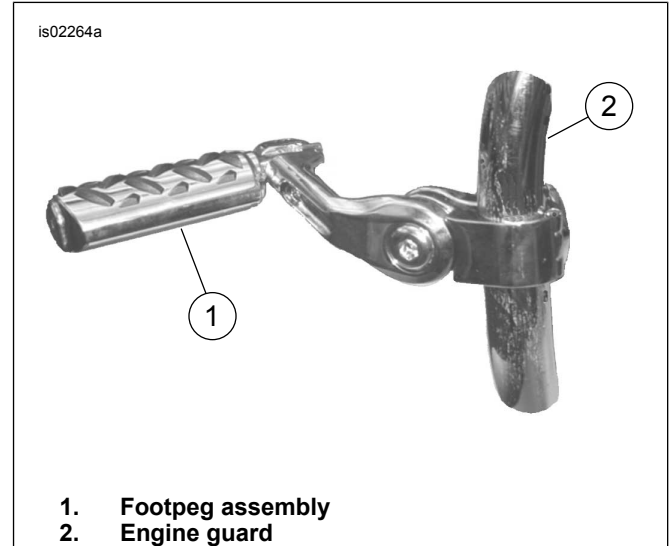
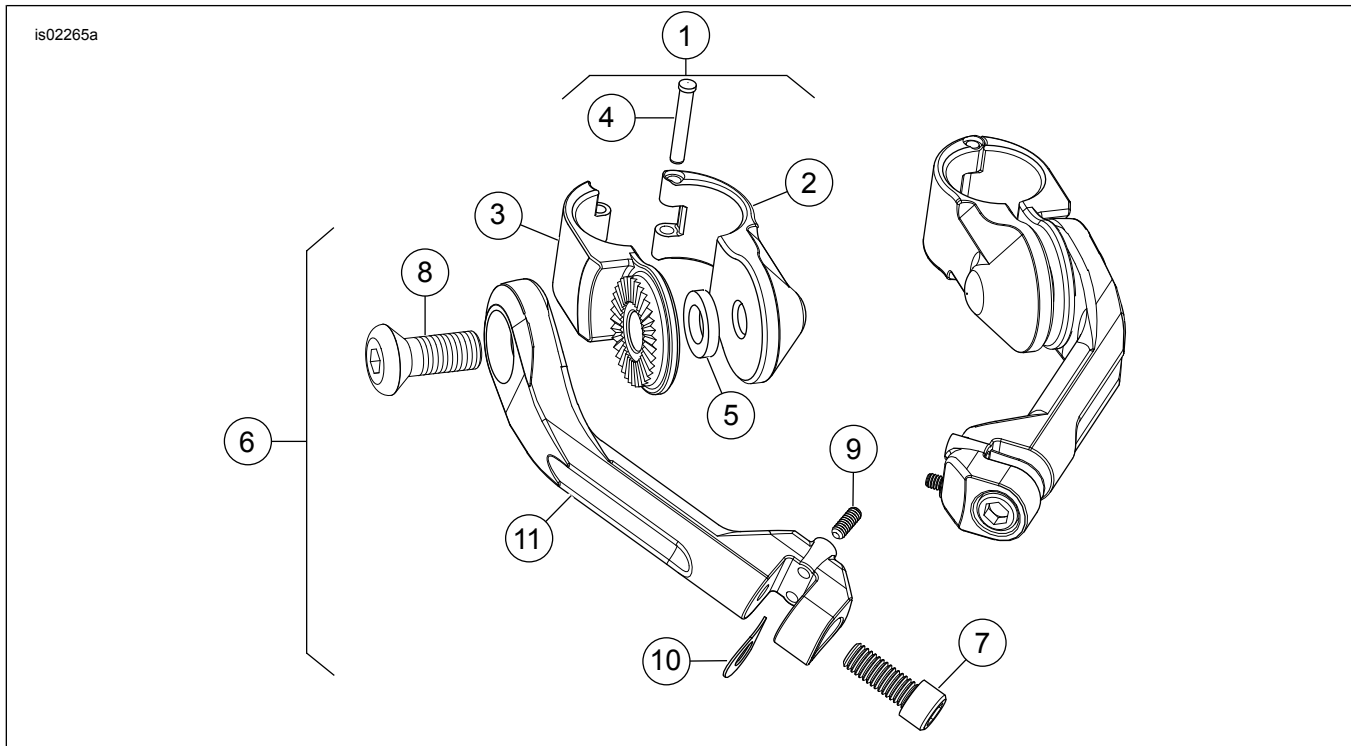

Figure 1. Installed Footpeg Assembly to Engine Guard
Figure 2. Service Parts: Engine Guard Footpeg Mounting Kit
See Figure 2 and Table 1.
2. See Figure 2. Obtain the mounting clamp (1) from kit. Position the clamp halves around the engine guard at the desired height and install with hinge pin head facing upward. The "cogged" face of the clamp should face the extension arm.
3. Obtain the washer (5), screw (8) and one of the angled arms (11) (long or short depending on kit number) from kit. Using the screw, align and install the angled arm with washer (5) positioned between the clamp "ears".
4. See Figure 1. Position the angled arm such that footpeg will pivot upward and toward the rear of the motorcycle. Do not tighten completely at this time.
5. See Figure 2. Obtain the footpeg (sold separately), D-spring washer (10) and screw (7) from kit. Install the D-spring washer so it is positioned inside the footpeg mount (arm) with the square "D" edge toward the inside of the mount. Hold the washer in place and slide the footpeg into position. Apply two or three drops of Loctite 243 to the screw. Install screw to footpeg and tighten to 26 N·m (19 ft-lbs).